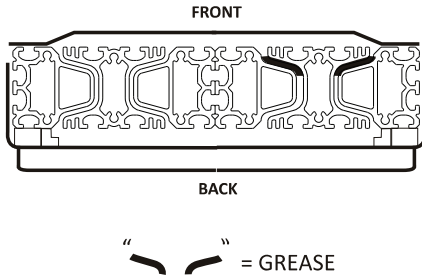

Figure 7-9
6. Continue to apply grease to the driver side middle rails. *See Figures 7-9 and 7-10.*